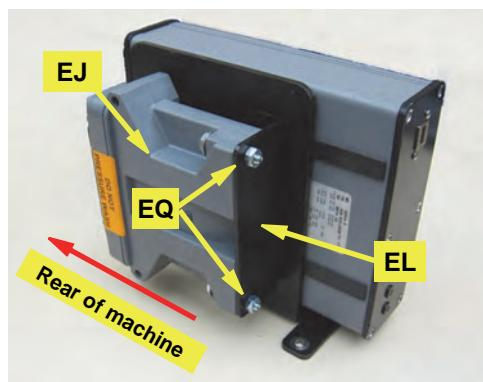

Figure 1d: Installed steering controller
- Using hardware **EQ**, attach steering controller **EJ**, connectors rearward, to its bracket **EL** (Figure 1d).